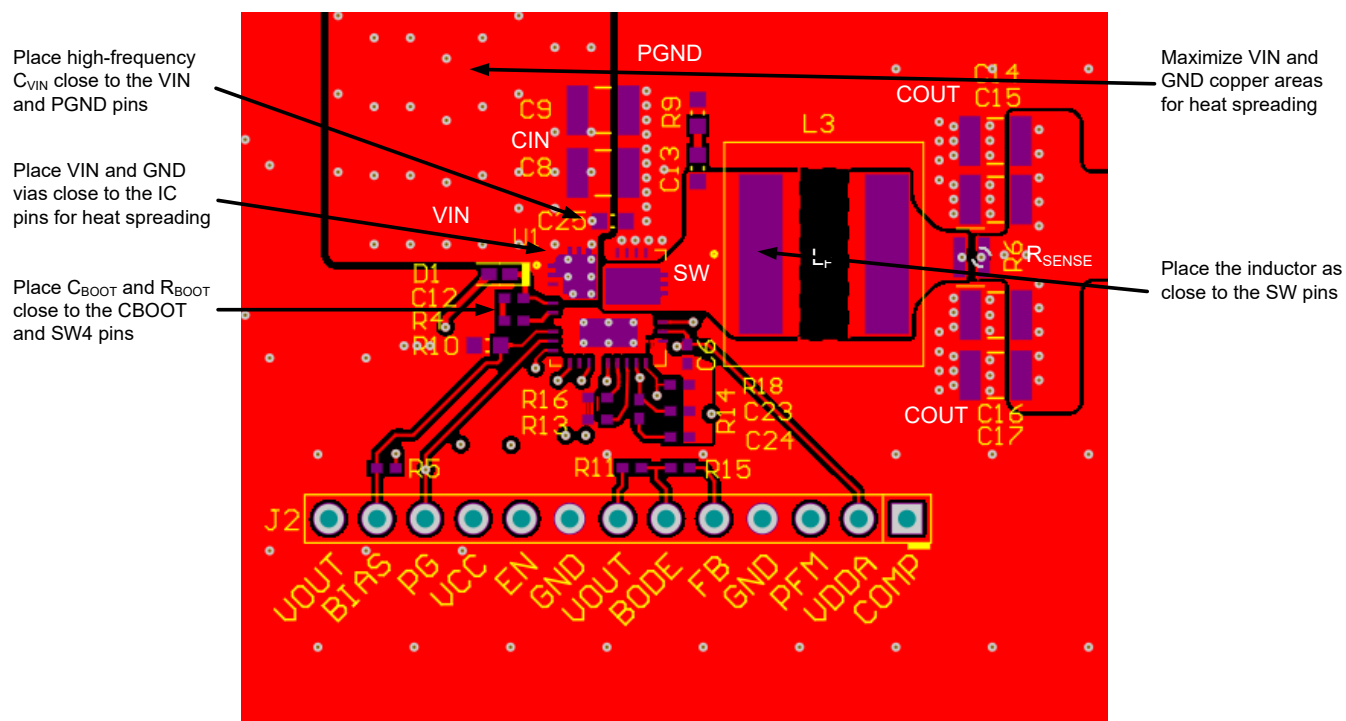

図 7-37. PCB Top Layer – High Density, Single-sided Design
The following list summarizes the essential guidelines for PCB layout and component placement to optimize DC/DC converter performance, including thermals and EMI signature. Figure 7-37 shows a recommended layout of the LM706A0-Q1 with optimized placement and routing of the power-stage and small-signal components.
- Use low-ESR ceramic capacitors with X7R or X7S dielectric from VIN to PGND. Place an 0402 capacitor close to VIN for high-frequency bypass as shown in Figure 7-37. Use additional 1206 or 1210 capacitors for bulk capacitance.